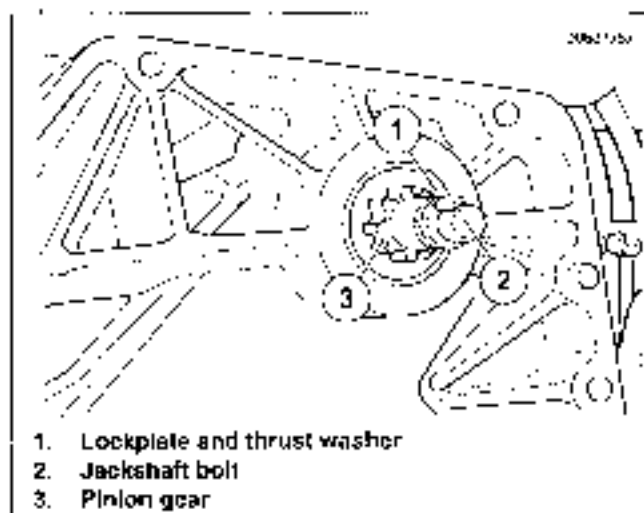

Figure 5-27. Primary Chaincase and Jackshaft Assembly
4. See Figure 5-27. Hold pinion gear (3) in place and remove the jackshaft bolt (2), lockplate and thrust washer (1).